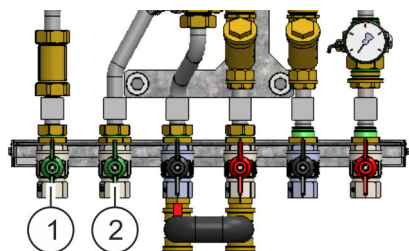

Fig. 31: Opening the fresh water ball valve
4. ➔ Slowly open the main supply line for cold water (Fig. 31/1).
5. ➔ Open the hot water distribution connection (Fig. 31/2).